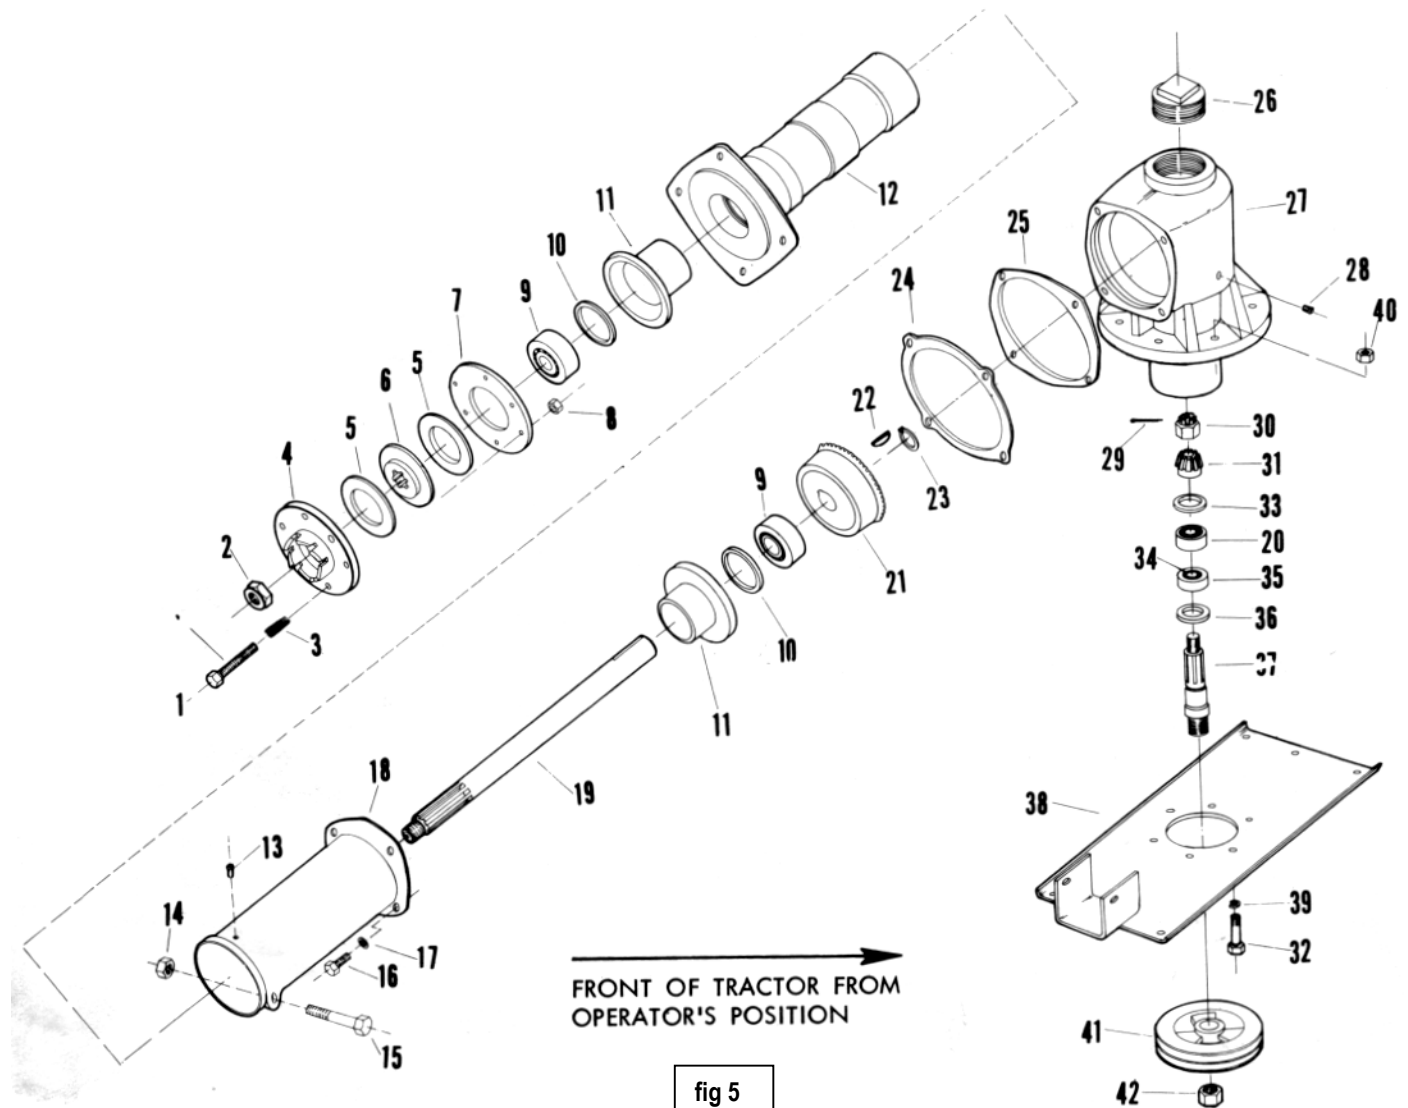

fig 5
1. **SWIVEL ACTION:** The swivel action is regulated by the nut and bolt on the swivel casting, fig 5. Loosening allows more action, tightening reduces the action. The swivel action should allow the mower to follow ground contour.